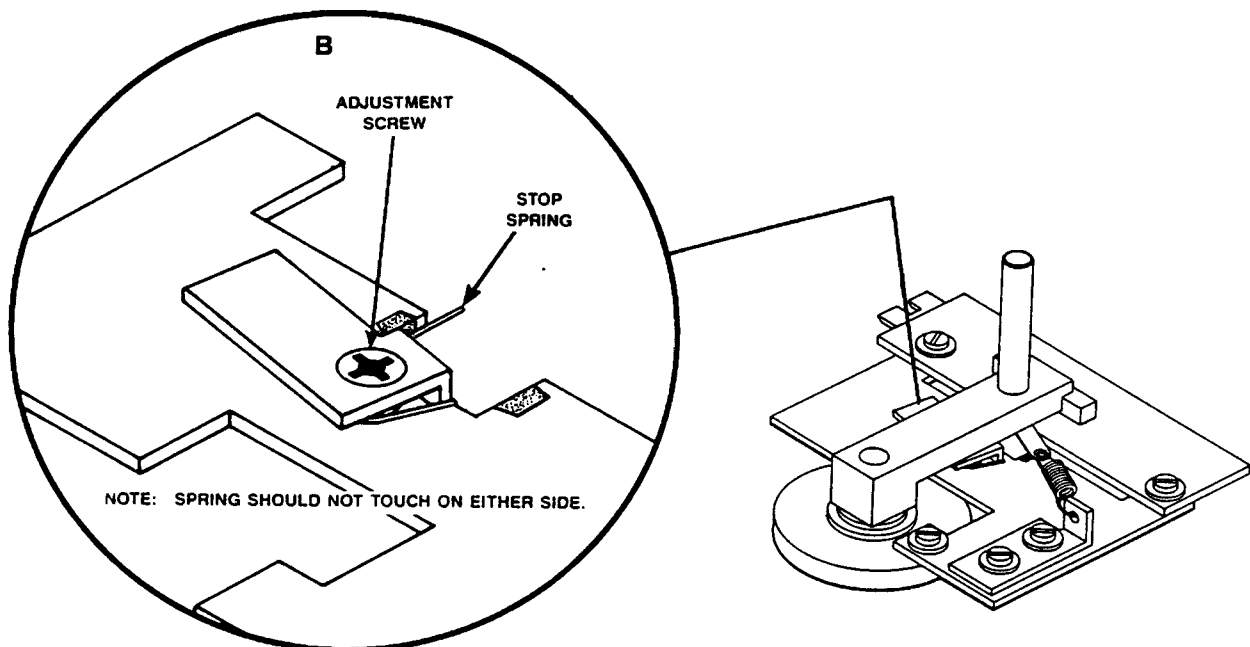

Figure 6-17. Flutter Dampener Stopper Spring Assembly
- STEP 10** With the machine in PLAY mode, check the clearance of the stopper spring. There should be a clearance of 2-3mm between the lower flutter dampener shaft and the stopper spring during PLAY mode. If required, adjust the spring securing screw (B). Refer to Figure 6-17.